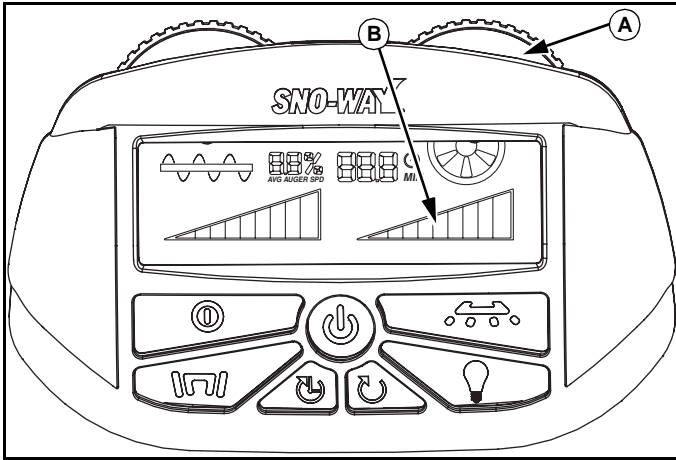

Figure 1-11
To operate the spinner, turn the right Spinner Dial (A) clockwise to increase speed. The approximate speed percentage will be indicated on the Bar Graph (B). When the dial is rotated completely counter clockwise and the graph does not have any bars the spinner will be stopped. When the spinner stops, the auger, vibrator, and wetting system will also stop. This way, material will not be wasted and overload the spinner. (See Figure 1-11.)